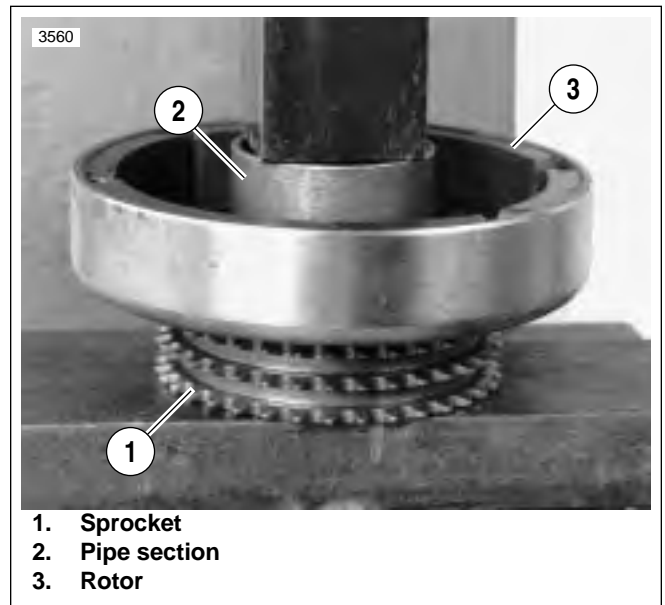

Figure 7-37. Pressing Rotor onto Sprocket
6. See Figure 7-37. Attach rotor to sprocket.
- a. Position rotor (3) on sprocket (1). Align holes in sprocket with holes in rotor.
- c. Position a section of pipe (2) with an inside diameter larger than the sprocket mounting hub over center of rotor. Press rotor onto sprocket. Tighten fasteners to 90-110 **in-lbs** (10-12 Nm).